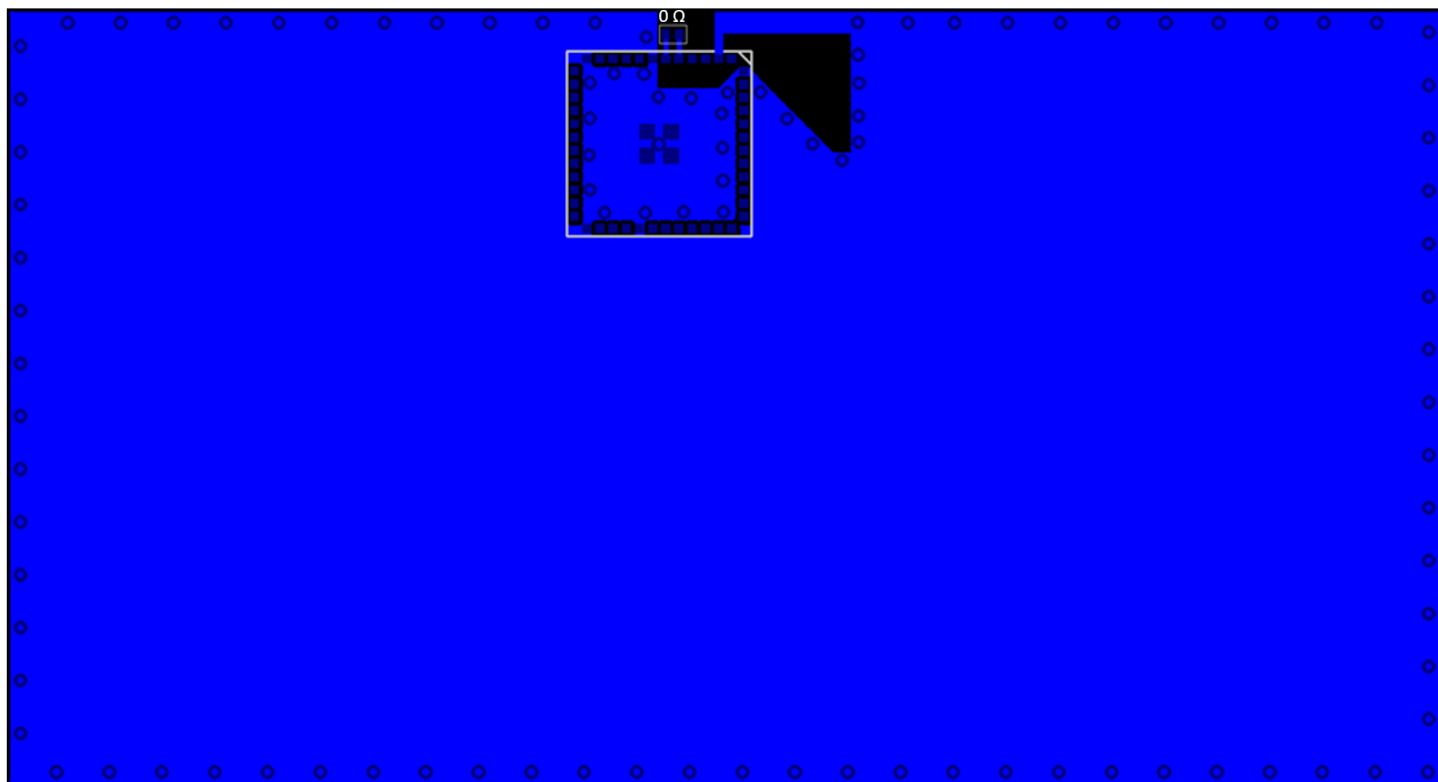

Figure 7.1. Recommended Layout for MGM240S (Integral Antenna)
- Place the module 1.50 mm from the edge of the copper “keep-in” area at the middle of the long edge of the application PCB, as illustrated in Figure 7.1 on page 40.